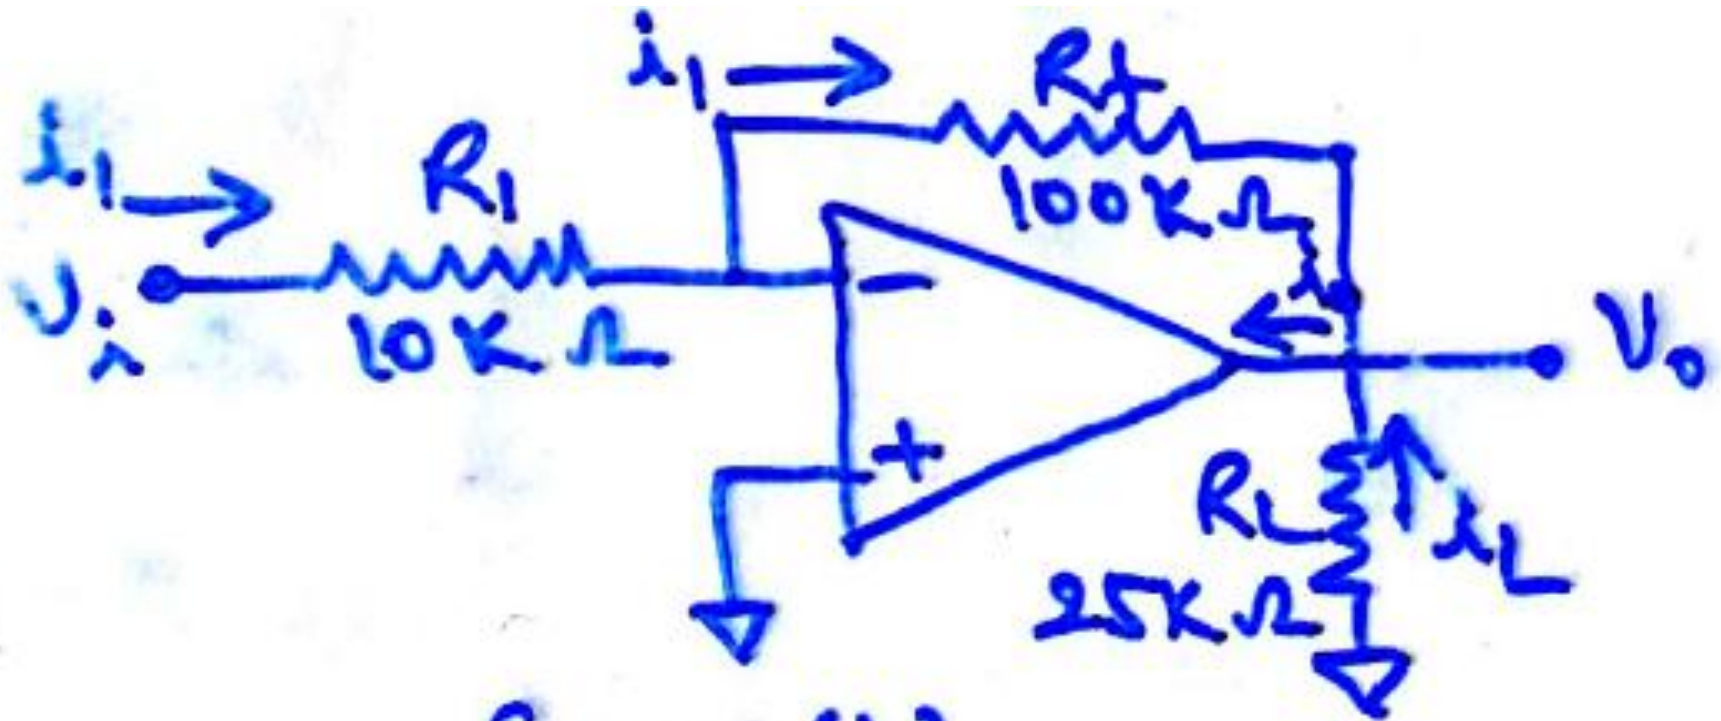

Fig 2(b)
- In figure 2(b), $R_1 = 10\text{K}\Omega$, $R_f = 100\text{K}\Omega$, $V_i = 1\text{V}$. A load of $25\text{K}\Omega$ is connected at the output terminal. Calculate (i) I_1 (ii) V_0 (iii) i_l and total current i_o into the output pin